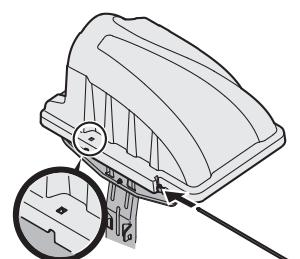

Figure 9
- Slide the hinge pin into the hole located on the mounting tab, as in Figure 9. Use the cut-out window (inset) to line up the hinge pin on the other side and push pin all the way in until it reaches the end-stop.